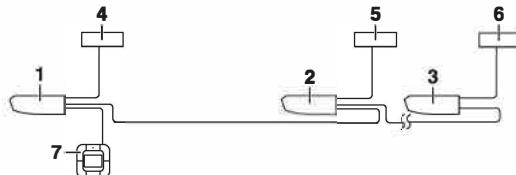

Fig. 24
- When using as a pair unit, you may carry out simultaneous start/stop (group) control up to 16 units with the remote controller. (Refer to Fig. 24)
- (1) Remove the control box lid. (Refer to "10. WIRING EXAMPLE AND HOW TO SET THE REMOTE CONTROLLER".)
- (2) Connect crossover wiring between the terminals (P1, P2) inside the control box for the remote controller. (There is no polarity.) (Refer to Fig. 24)